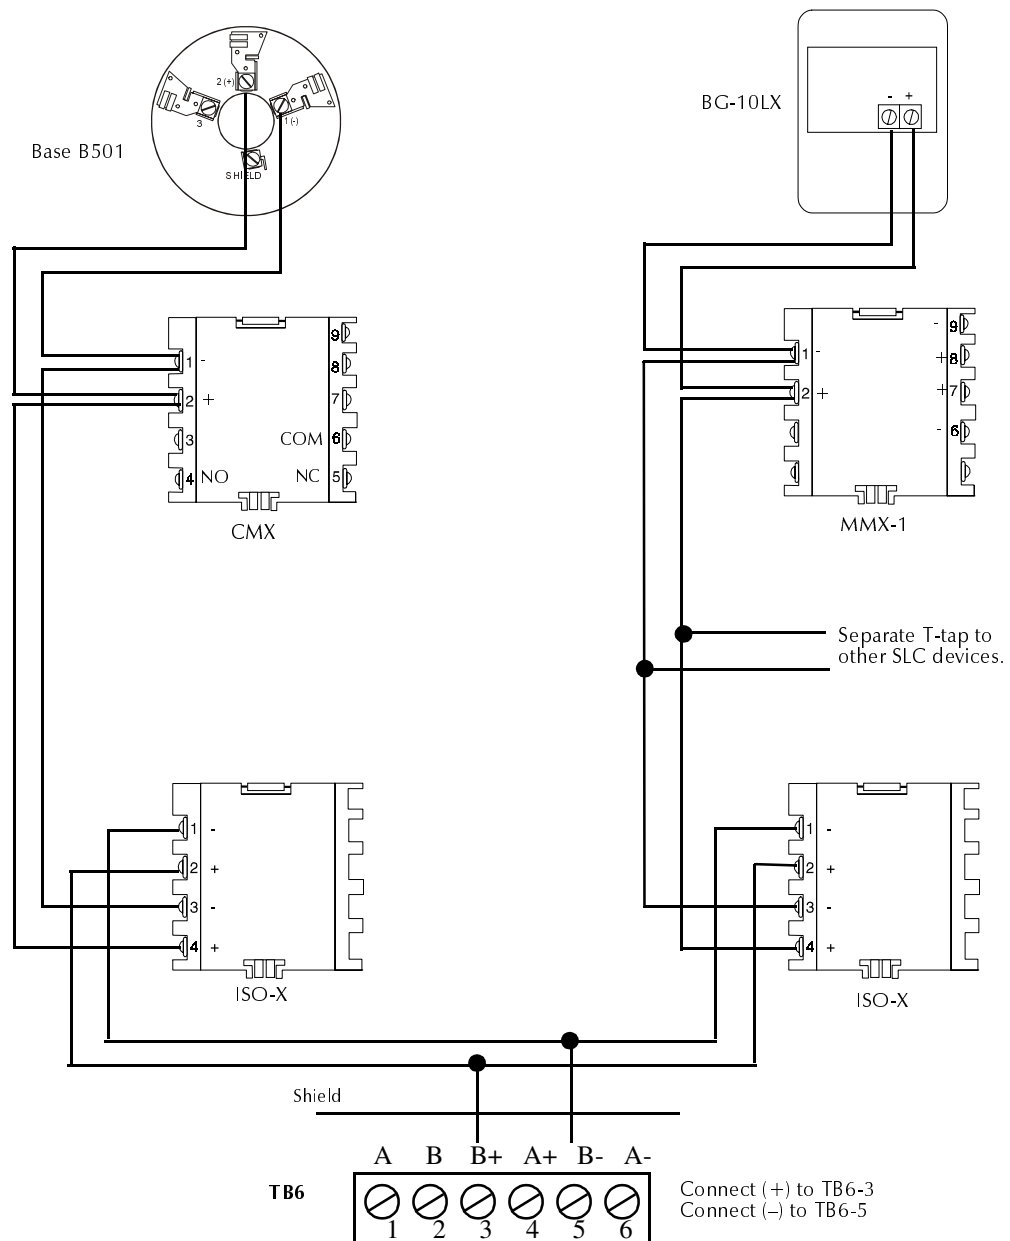
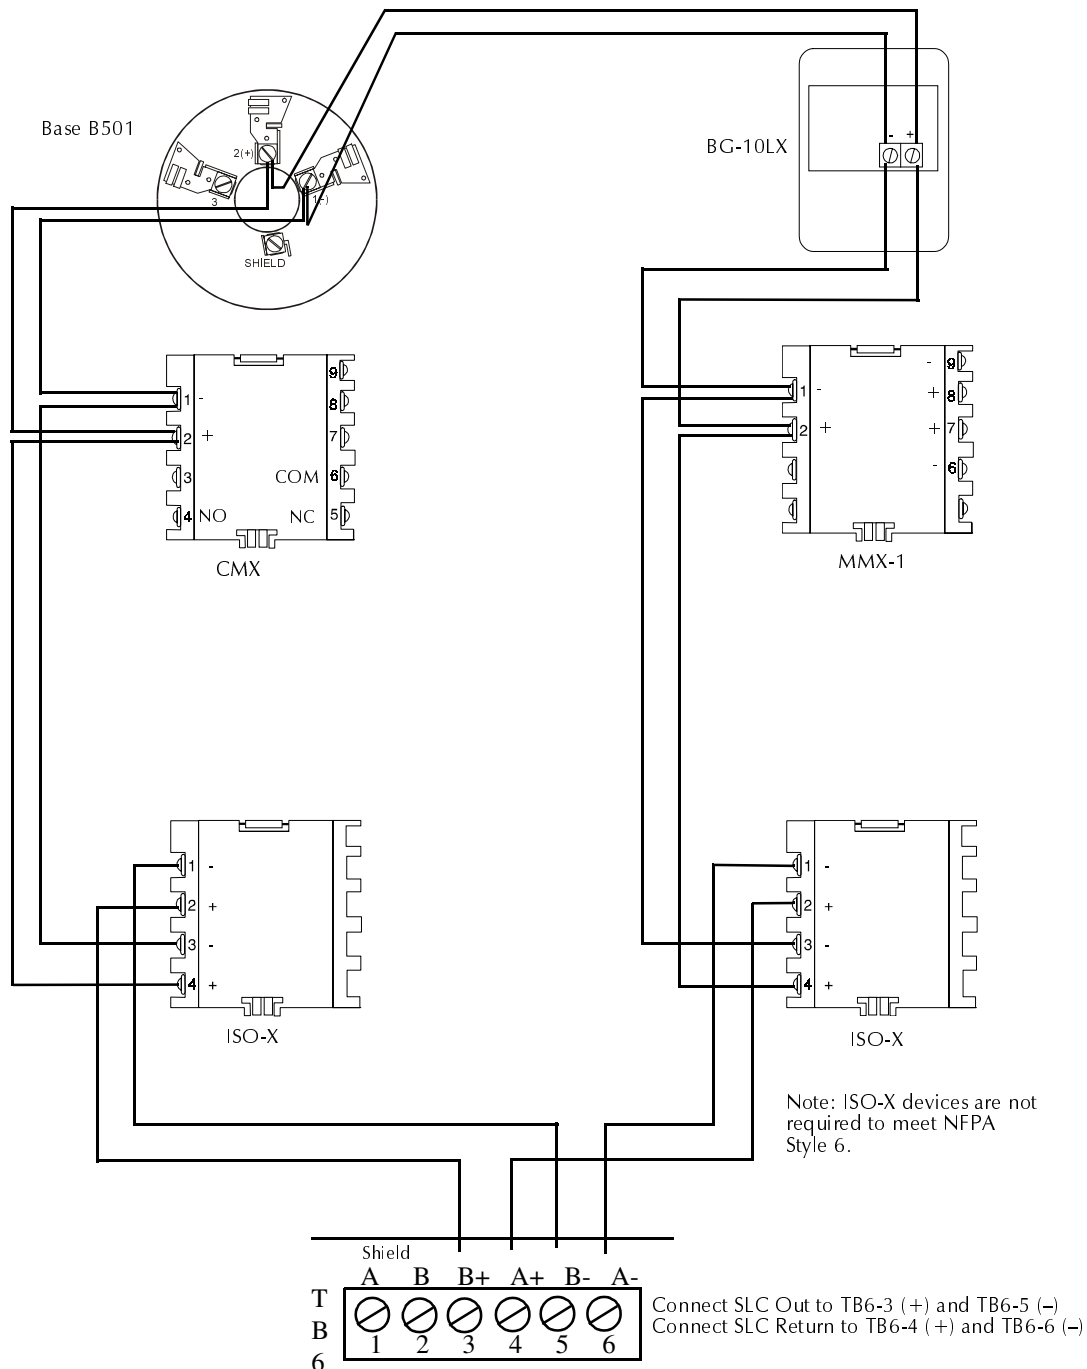
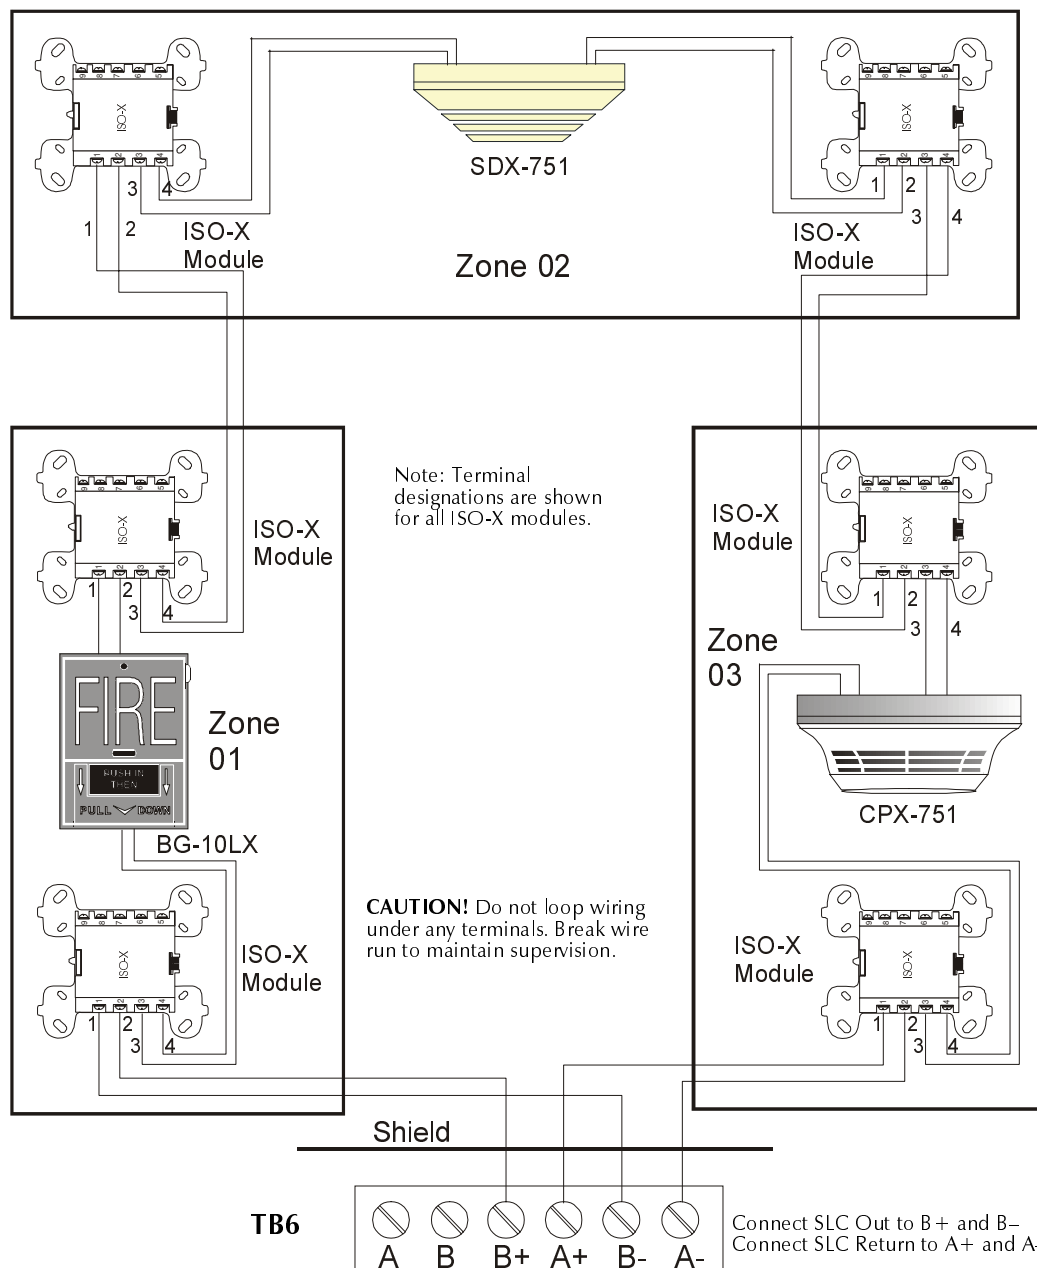

Figure 18 Two-Wire SLC
Figure 19 Four-Wire SLC
Figure 20 Four-Wire SLC
- Style 4 (see Figure 18 on page 37)
- Style 6 (Figure 19 on page 39)
- Style 7 (Figure 20 on page 40)
ISO-X Modules permit a zone of detectors and modules to be electrically 'isolated' from the remainder of the SLC, allowing critical SLC components to function in the event of a short circuit on the SLC wiring (see Figure 18, Figure 19 and Figure 20). These are required to meet the requirements of NFPA Style 7.
Addressable Monitor Modules allow the control panel to monitor entire circuits of conventional normally-open contacts, alarm initiating devices, manual pull stations, four-wire smoke detectors, heat detectors, waterflow, supervisory devices (see Figure 28 and Figure 29) and conventional detectors (see Figure 30 and Figure 31). The BG-10LX is an addressable manual pull station which contains a miniature monitor module providing point annunciation (see Figure 18, Figure 19 and Figure 20).
Figure 18 shows typical wiring for an Style 4 two-wire SLC:
Figure 19 shows typical wiring for an Style 6 four-wire SLC:
The ISO-X module is used to protect critical elements of the SLC from faults on other branches or sections of the SLC. The ISO-X module continuously monitors the SLC connected to terminal 1(-), 3(-), 2(+) and 4(+). Upon power-up, an integral relay is latched on. The ISO-X periodically pulses the coil of this relay. A short circuit on either side of the SLC resets the relay. The ISO-X senses the short and disconnects the faulty branch by opening the positive side of the SLC (terminal 2 or 4). This effectively isolates the shorted branch from the remainder of the SLC. Once the fault is removed, the ISO-X automatically reapplies power to the SLC branch. Figure 18, “Two-Wire SLC,” on page 37, illustrates the use of an ISO-X on a two-wire SLC meeting NFPA Style 4 requirements. Figure 20, “Four-Wire SLC,” on page 40, illustrates a four-wire SLC meeting NFPA Style 7 requirements.